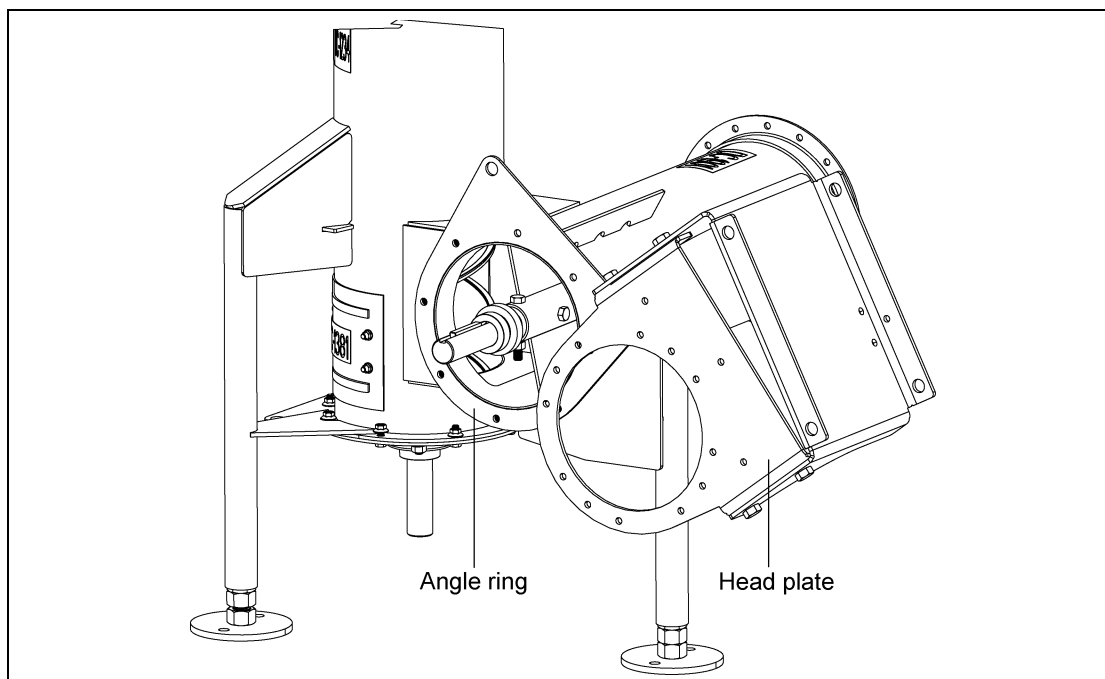

Figure 4H
2. Rotate the head plate assembly so that the side of the motor mount plate is as close as possible to the vertical connecting band, while making sure that the mounting holes in the head plate still align with the mounting holes in the angle ring. (See Figure 4H.)